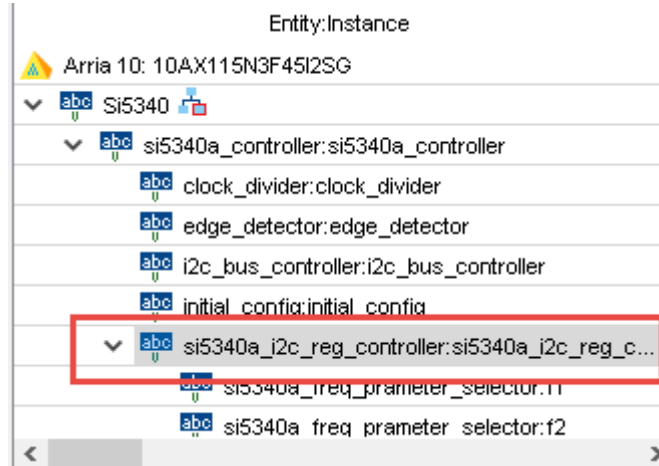

Figure 5-8 Sub-Module file “si5340a_i2c_reg_controller.v”
- Open Si5340 control IP sub-module “si5340a_i2c_reg_controller.v “ as shown in **Figure 5-8**, refer Design Report parameter to modify sub-module corresponding register value (See **Figure 5-9**).